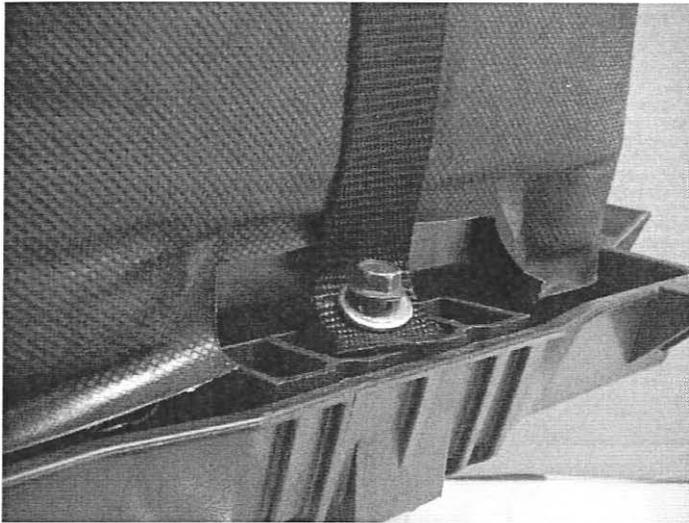

Figure 2
4. Install toe clamp back into battery tray centering the alignment ribs and grooves shown in **Figure 2**.
6. Pull the slack in the strap over the battery and install the Flange Bolt one thread into the tray. **Figure 2** shows assembled configuration.